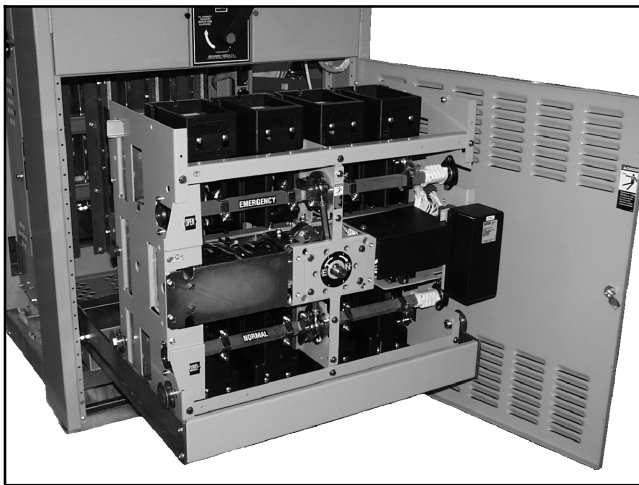

Figure 9-3 Isolated and Pulled-Out Transfer Switch
1. Bypass, isolate, and pull out the transfer switch. Follow the procedure explained in the bypass/isolation switch operation and installation manual. See Figure 9-3. Verify that no electrical power is present at the pulled-out transfer switch.
1. Bypass, isolate, and pull out the transfer switch. Follow the procedure explained in the operation and installation manual. Verify that no electrical power is present at the pulled-out transfer switch. See Figure 9-3.
1. Install the adjusting hub and maintenance handle. Insert the maintenance handle completely into the hub (compress the handle spring) and grasp it firmly. Use the maintenance handle to close the contacts that you are checking or adjusting (if they are not already closed). See Figure 9-3.
9. Manually operate the switch and recheck adjustments. Use the maintenance handle (see Figure 9-3) to manually operate the transfer switch several times. Then repeat steps 3 through 8. When you are finished with all contact adjustments, remove the hub and maintenance handle and store them on the lower frame in the place provided.